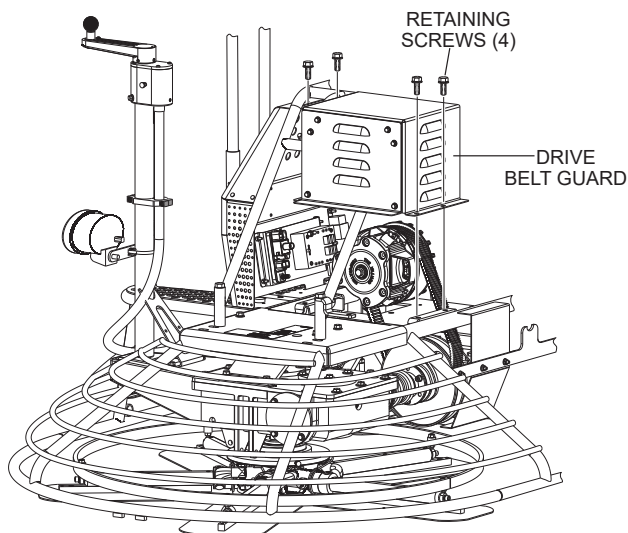

Figure 33. Drive Belt Guard Removal
1. Remove the retaining screws (4) that secure the drive belt guard (Figure 33) to the trowel frame.